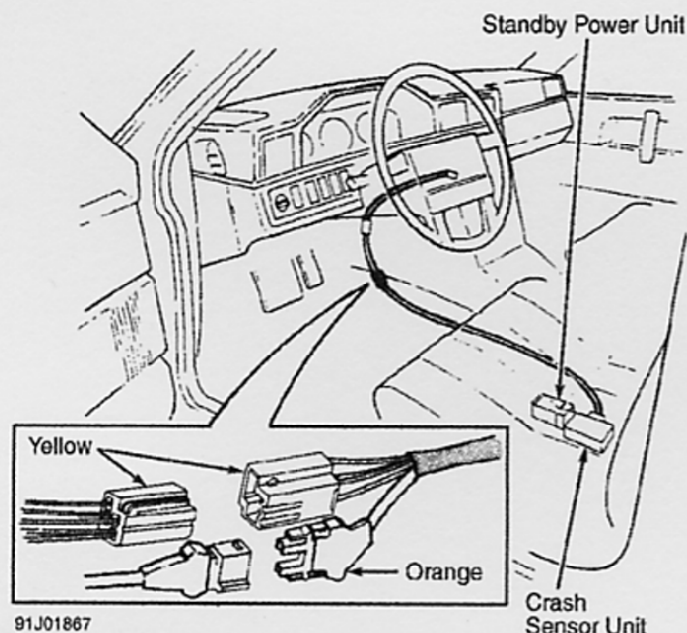

Fig. 1: Locating SRS Disabling Connectors (Typical)
2) Locate and disconnect Orange and Yellow SRS connectors on driver's side of center console, under carpet. See Fig. 1. **DO NOT** disconnect harness connection at crash sensor or air bag will deploy.